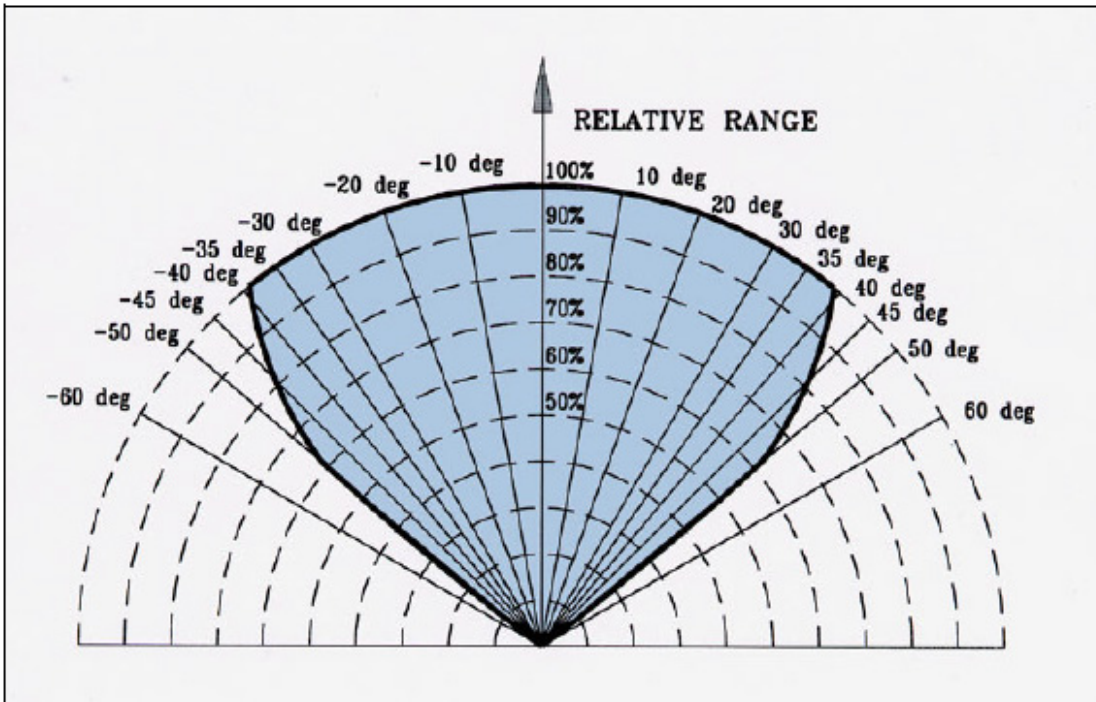

Figure 3: Horizontal and Vertical Fields of View
- **Field of View*:** (**Figure 3**)